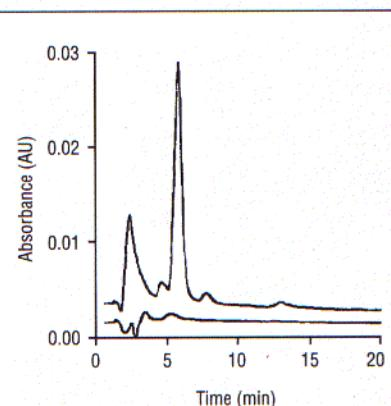

FIGURE 1: Chromatograms obtained from injection of mobile phase using (upper) new and (lower) extensively cleaned sample loop (1).
Input: My research involves the trace analysis of explosives residues by liquid chromatography (LC) with UV detection at 210 or 240 nm. In an attempt to gain more sensitivity, I recently switched to a larger injection volume. I ordered a 100- μ L stainless steel loop from a chromatography supplier, received the shipment, and connected the loop to the manual six-port injector. My research assistant and I immediately began to inject solutions of explosives standards into the 150 mm \times 2.1 mm, 5- μ m d_p C18 column. To our dismay, very large peaks (on our scale of 0–0.005 absorbance) of unknown origin obscured the expected explosives peaks. We didn't know if these peaks were sample solvent artifacts or the results of the injection loop itself. To check, we injected mobile phase (50% methanol–50% water) and found the same interference (see the upper trace in Figure 1),
We decided to clean the loop by filling it with solvent, waiting 1 h, and then rinsing the loop again. Solvents were used in the following order: toluene, acetonitrile, methanol, and 50% methanol–50% water. After cleaning the injection loop, the chromatogram (Figure 1, lower trace) from an injection of mobile phase improved significantly. After more cleaning in the same manner, the new injection loop yielded acceptable blank chromatograms for our trace analysis.